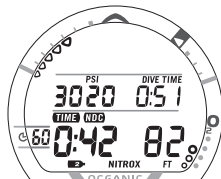

Fig. 91 - NORM DIVE MAIN
- After the switch is made, the NORM DIVE MAIN Display will represent GAS 2 (Fig. 91). If TMT 2 is active, Air Time Remaining is then calculated based on Tank 2's Pressure.